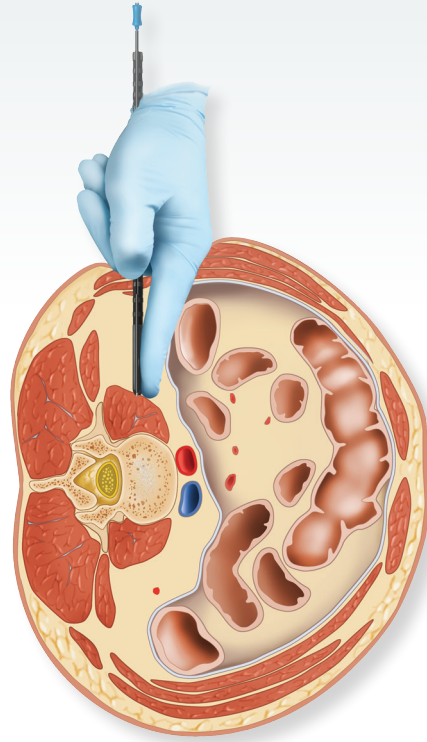

Figure 12
- While holding the index finger on the surface of the psoas muscle with the palm of the hand facing posteriorly, carefully guide the initial dilator down the palm of the hand and into the retroperitoneal space until the tip of the dilator is at the lateral margin of the psoas muscle (**Figure 12**).